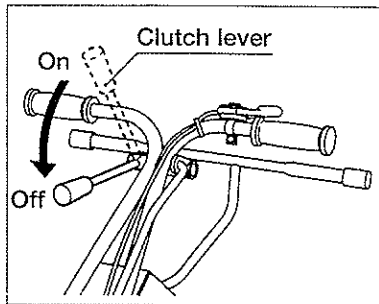

Fig. 11
- ① Set the clutch lever to the off position (Fig. 11).